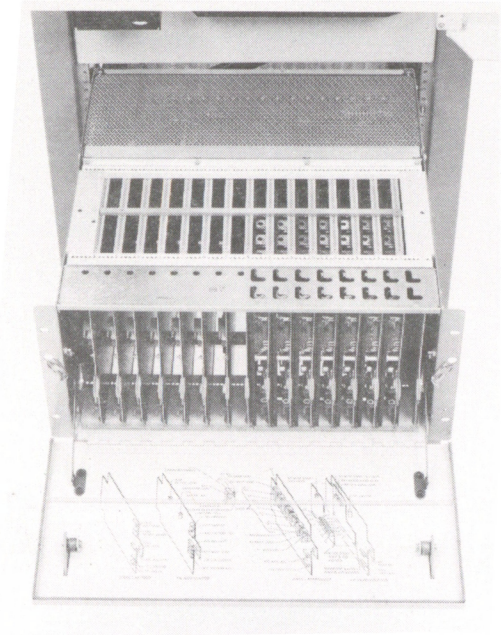

Figure 1-9. Signal Electronics Tray - Extended Position
- The data signal record and reproduce amplifiers which are mounted in the signal electronics trays. The trays are located directly beneath the transport assembly. See Figures 1-9 and 1-10.
channel record and reproduce system and four trays are required for a 28-channel record reproduce system. The signal electronics trays slide out of the transport rack cabinet for easy access to top edge adjustments and power supplies. Normal signal electronics adjustments are available at the front of the electronics tray by dropping the tray cover. See Figures 1-9 and 1-10.